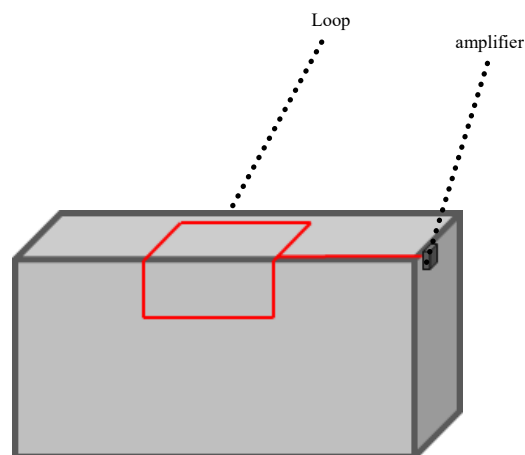

Figure 1.
1. There are 2 possibilities to place a loop in a counter as described below, however we strongly advise you to use the first version: Place the loop on the vertical and horizontal portion of the counter as shown in figure 1. This type of installation ensures better coverage in front of the counter.